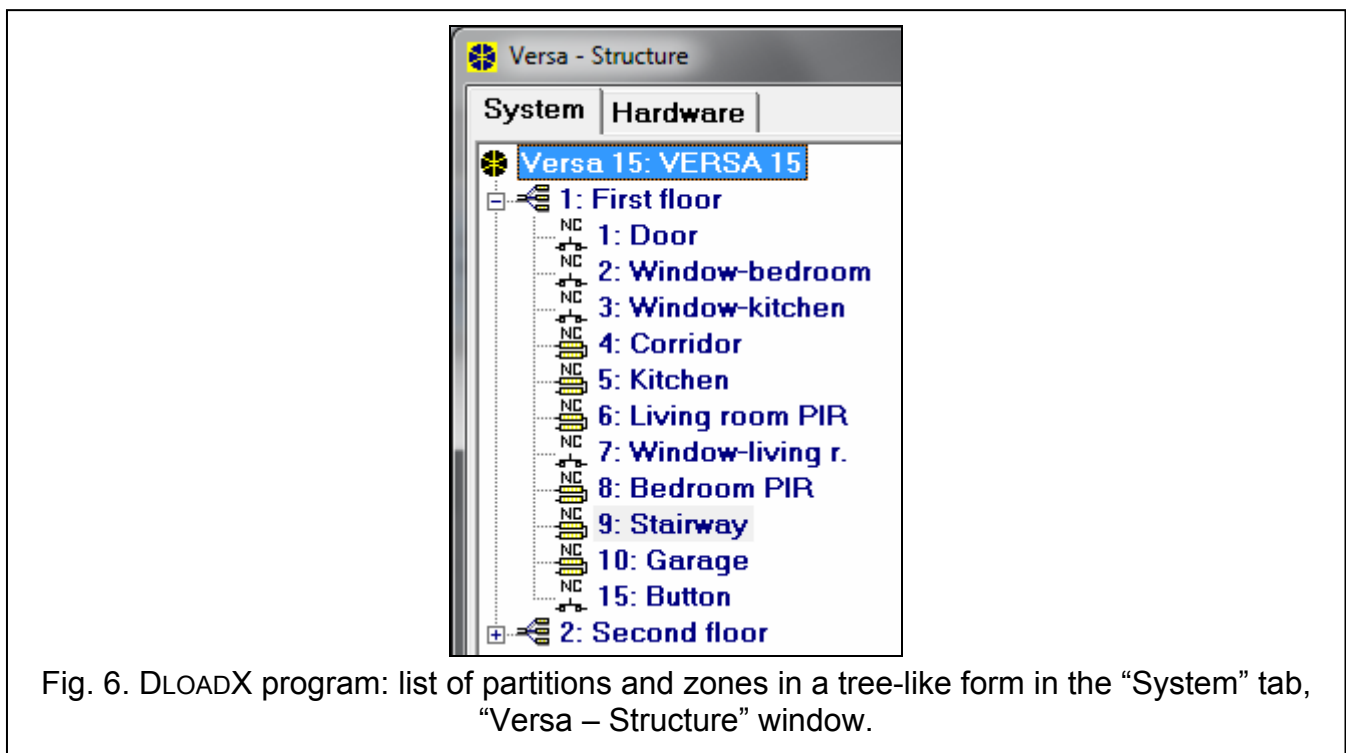

Fig. 6. DLOADX program: list of partitions and zones in a tree-like form in the “System” tab, “Versa – Structure” window.
- DLOADX program: “Versa – Structure” window → “System” tab. Partitions and zones are presented in the form of tree structure on the left side of the window (Fig. 6). Click on the partition you want to configure.
- "Versa – Structure" window → "System" tab. Partition and zones are presented in the tree-like form on the left-hand side of the window (Fig. 6). Click on the zone, the parameters and options of which you want to configure.